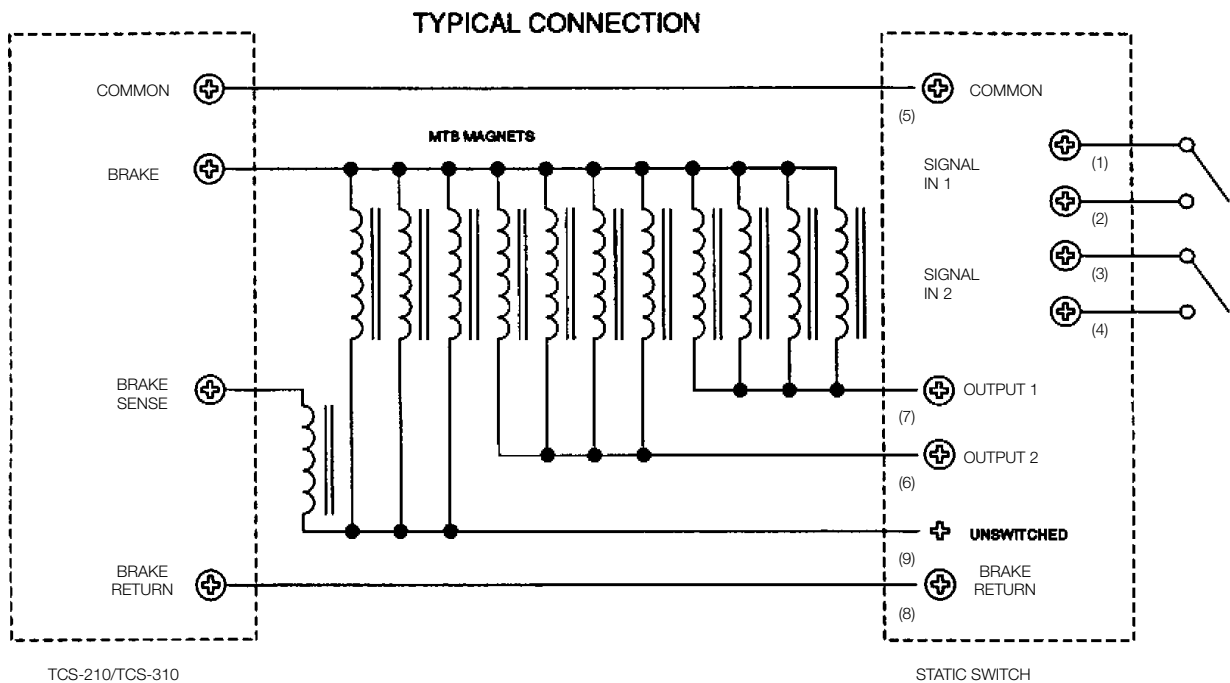

Figure 3
Typical wiring connections are shown in Figure 3. When wiring either a TCS-310 or TCS-320 Splicer Control, two (2) Static Switch Assemblies are required, one each for channels “A” and “B”.